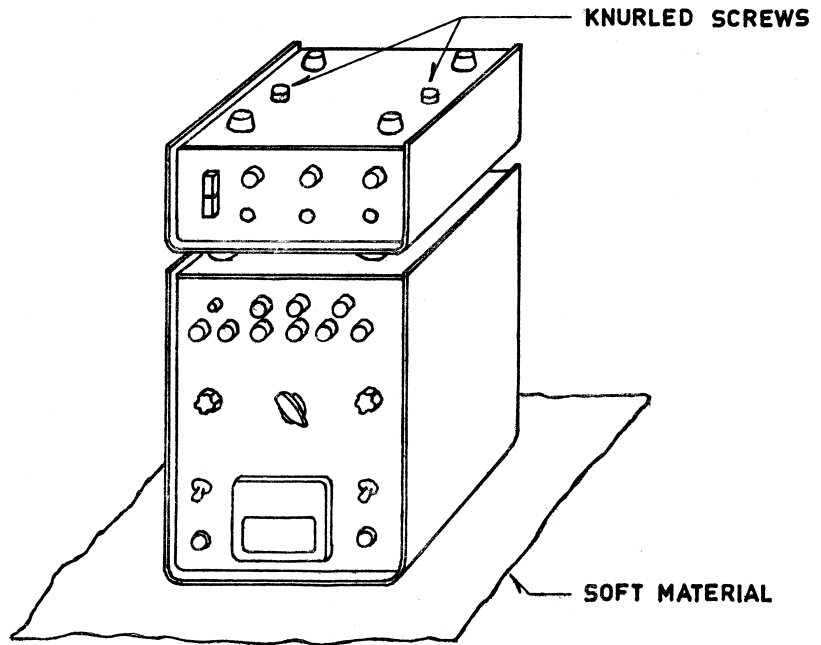

FIG.2.4 MECHANICAL ASSEMBLY OF THE SE21/DVS1
2.51 The DVS1 and the SE21 are electrically and mechanically coupled. The assembling is simple and may be carried out quickly - simply proceed as shown in figures 2.4 and 2.5.